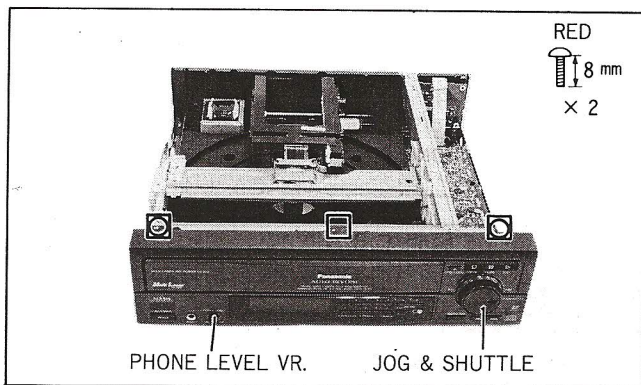
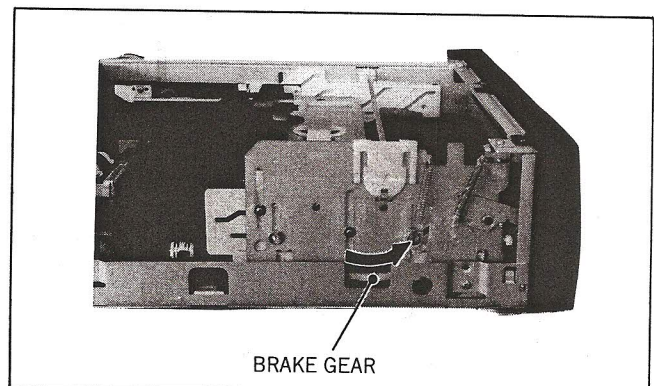

Fig. 1-2 Front Panel (top view)
Fig. 2-1 Manual Eject
1. Set the mechanism to the Eject position. (Refer to Fig. 2-1)
2. Remove 1 screw (A) on the Tray and then carefully remove Tray as follows:
1. Remove the Tray and Front Panel (Refer to Fig. 1-2, 3 and Fig. 2-1)
2. Unlock the Locking Tab (A) on the Charge Holder by pushing to rear side. Then shift the Charge Holder to front side to remove it.